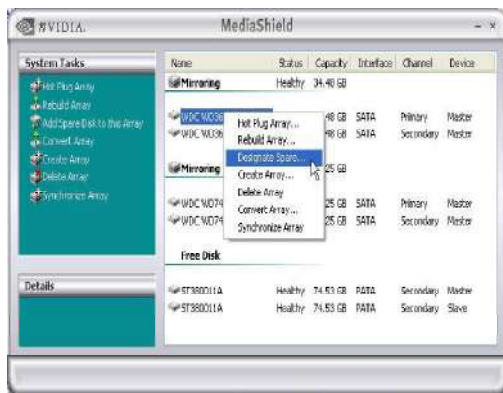

Figure 9. Dedicating a Disk to an Array
1. To dedicate a free disk to an array, right click the array as shown in Figure 9.